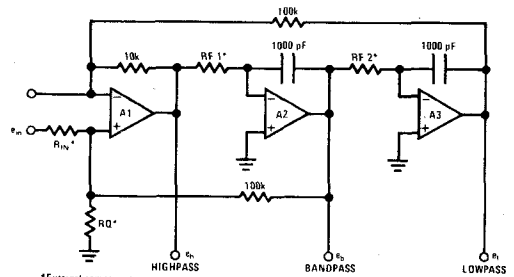

FIGURE 2. Non-inverting Input ( $Q > Q_{MIN}$ ). See Q Tuning Section
The specific transfer functions for some of the most useful circuit configurations using the AF100 are illustrated in *Figures 2 through 8*. Also included are the gain equations in the frequency band of interest, the Q equation, center frequency equation and the Q determining resistor equation.
a) Non-inverting input (Figure 2) transfer equations are: